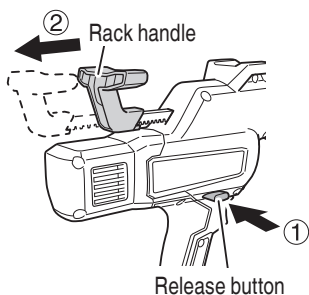

Fig. 19
- (3) While pushing the release button on the main body to release the lock, pull the rack handle backward to bring the piston closer to the main-body side. (Fig. 19)
- (1) Press the release button on the main body to release the lock, then pull the rack handle backward to bring the piston closer to the main-body side. (Fig. 19)